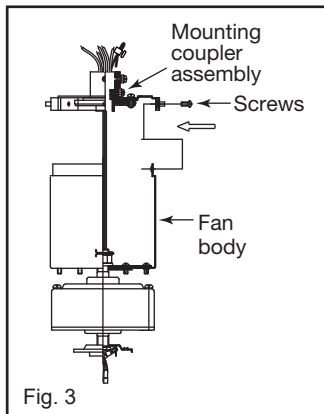

Fig. 3
Step 3. Slip the wires from the fan motor through the mounting coupler assembly, and then tighten mounting coupler assembly to the fan body with four mounting screws. (Fig. 3)